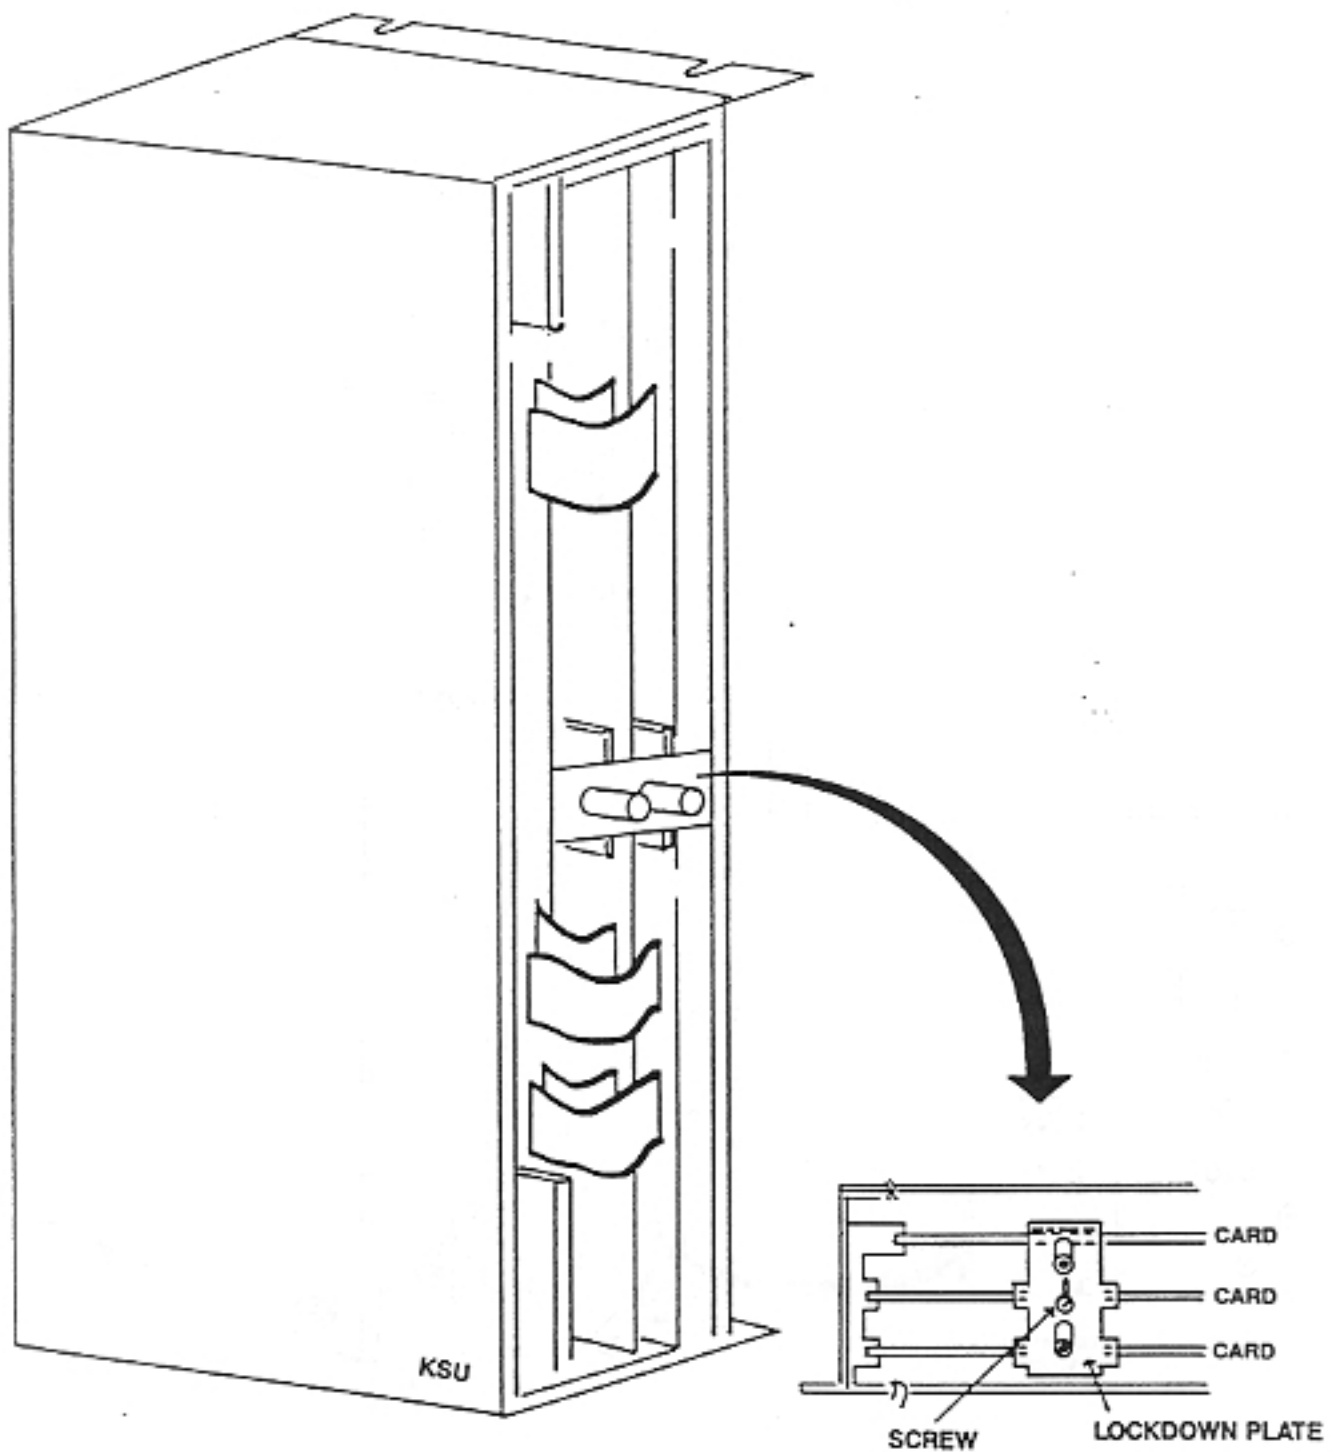

Figure 9-1 KSU Internal Construction
- 3) Loosen screw that secures lockdown plate (refer to Figure 9-1). Slide lockdown plate to right, so that the card slots are clear.